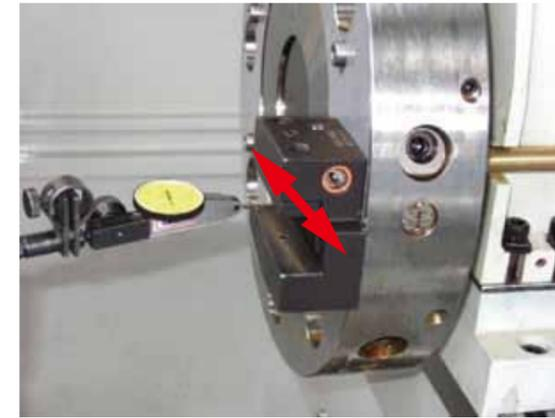

Fig.17
8) Move the turret along X-axis (see Fig. 17) and measure the maximal difference. Only test bore no. 1 and ensure the accuracy to be within 0~+0.03mm.